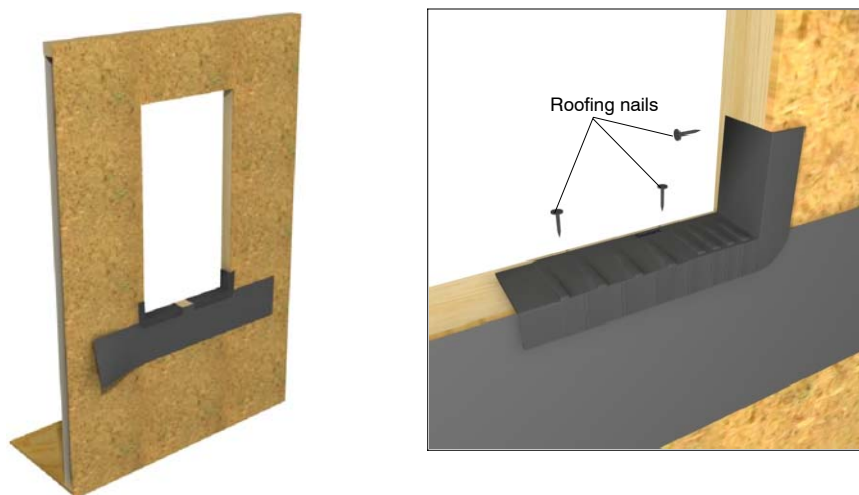

Figure 15: Install corners
2. Set corner panning in place behind jamb flap of WRB. Press the panning tightly against the wall and interior corner. Fasten with roofing nails at dimpled location on panning sill and about 4” (102) up the vertical leg. See figure 15.